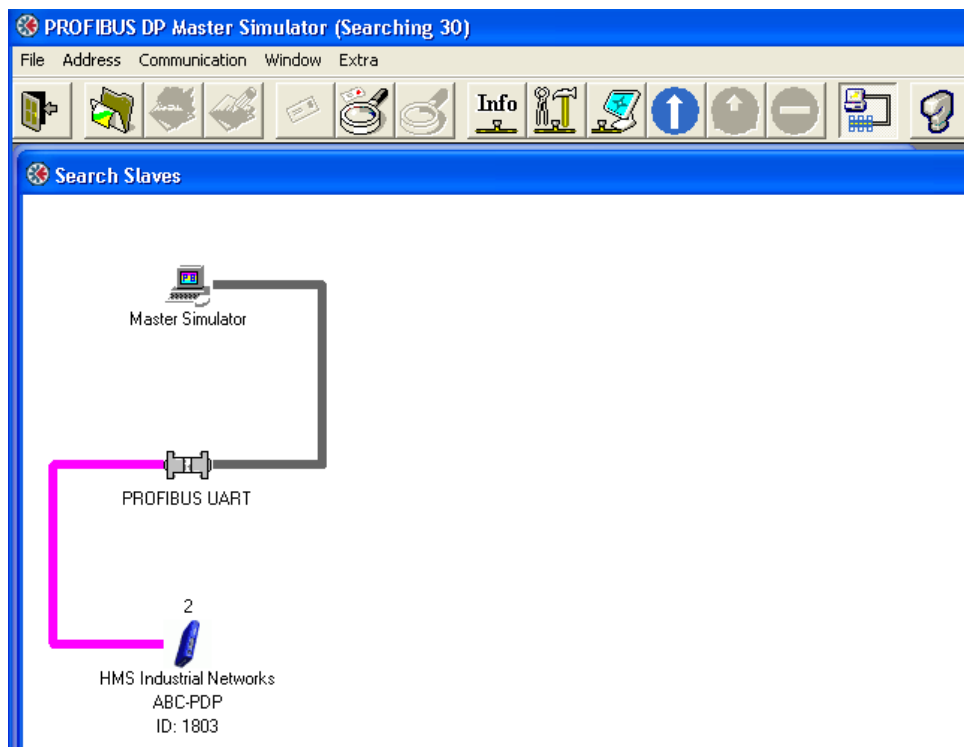

Figure 41 - ProfiBus scanning
- 3- Click on the **Start Search PROFIBUS slave address** button, see figure 41.